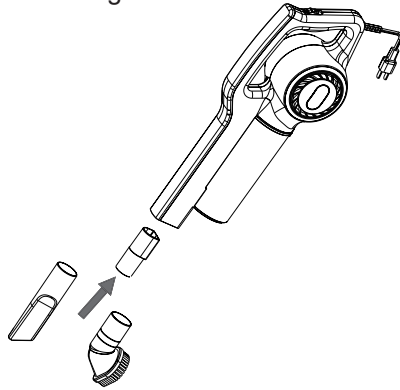

Fig.5
- ◆ This appliance has a handle on the upper part of the body, which facilitates comfortable transportation (Fig.5).